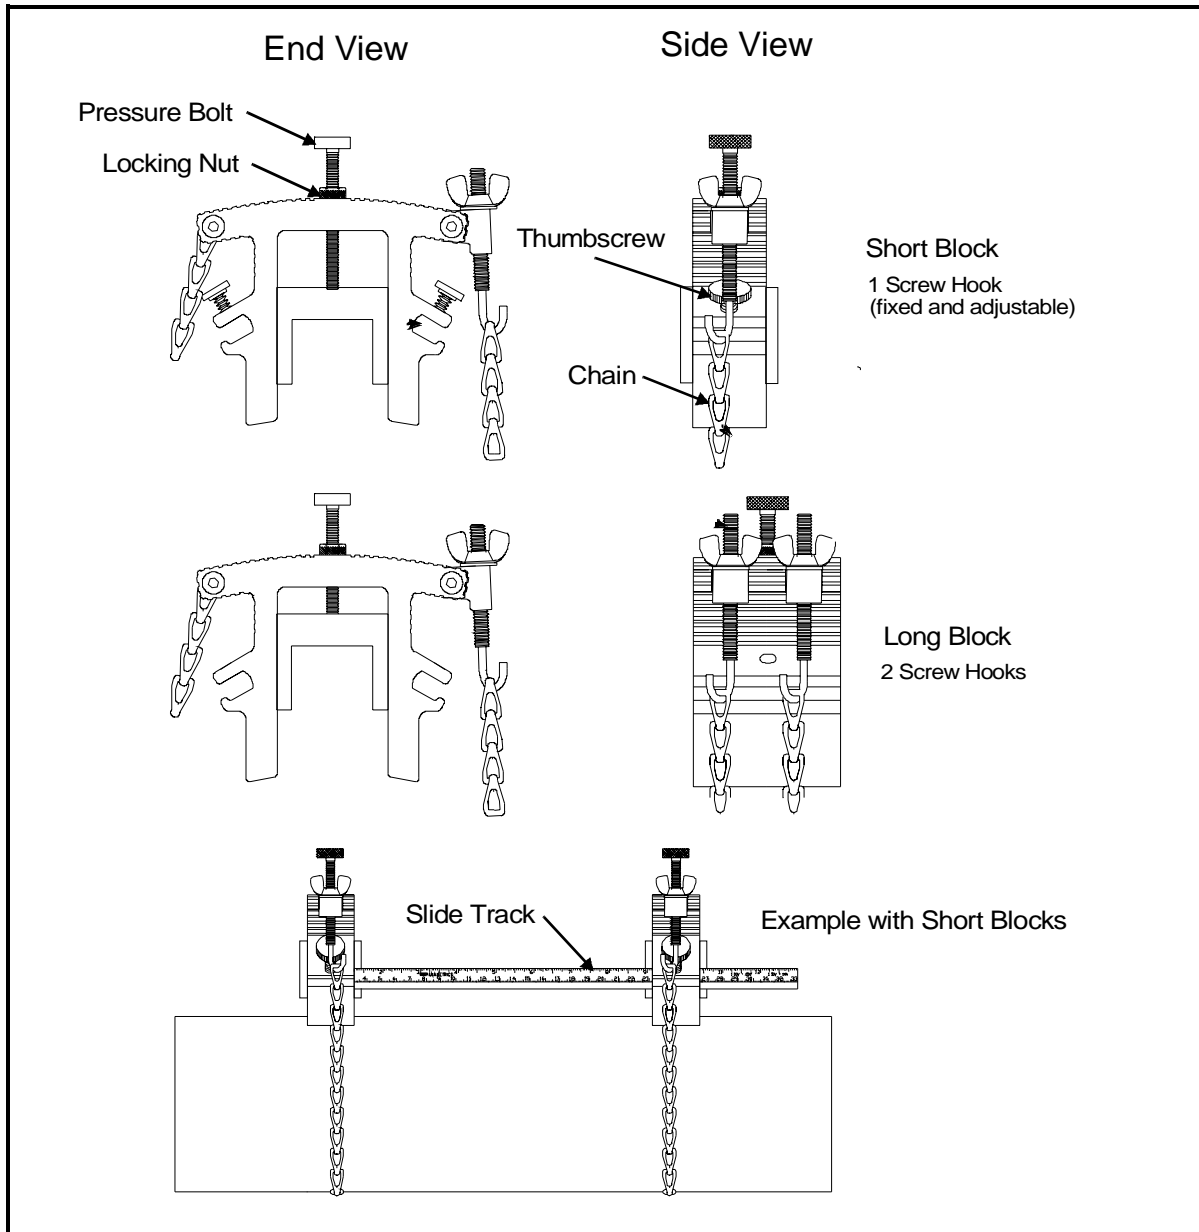

Figure 3: Components of the UCF
The blocks are used to hold the transducers in position for accurate measurement. The UCF is chained or strapped around the pipe. The blocks are positioned using the spacing dimension calculated by the flowmeter. Then the transducers are mounted into the blocks. Figure 3 on the next page shows the short and long blocks.
6. Tighten the locking nut on the pressure bolt (see Figure 3 on page 8).